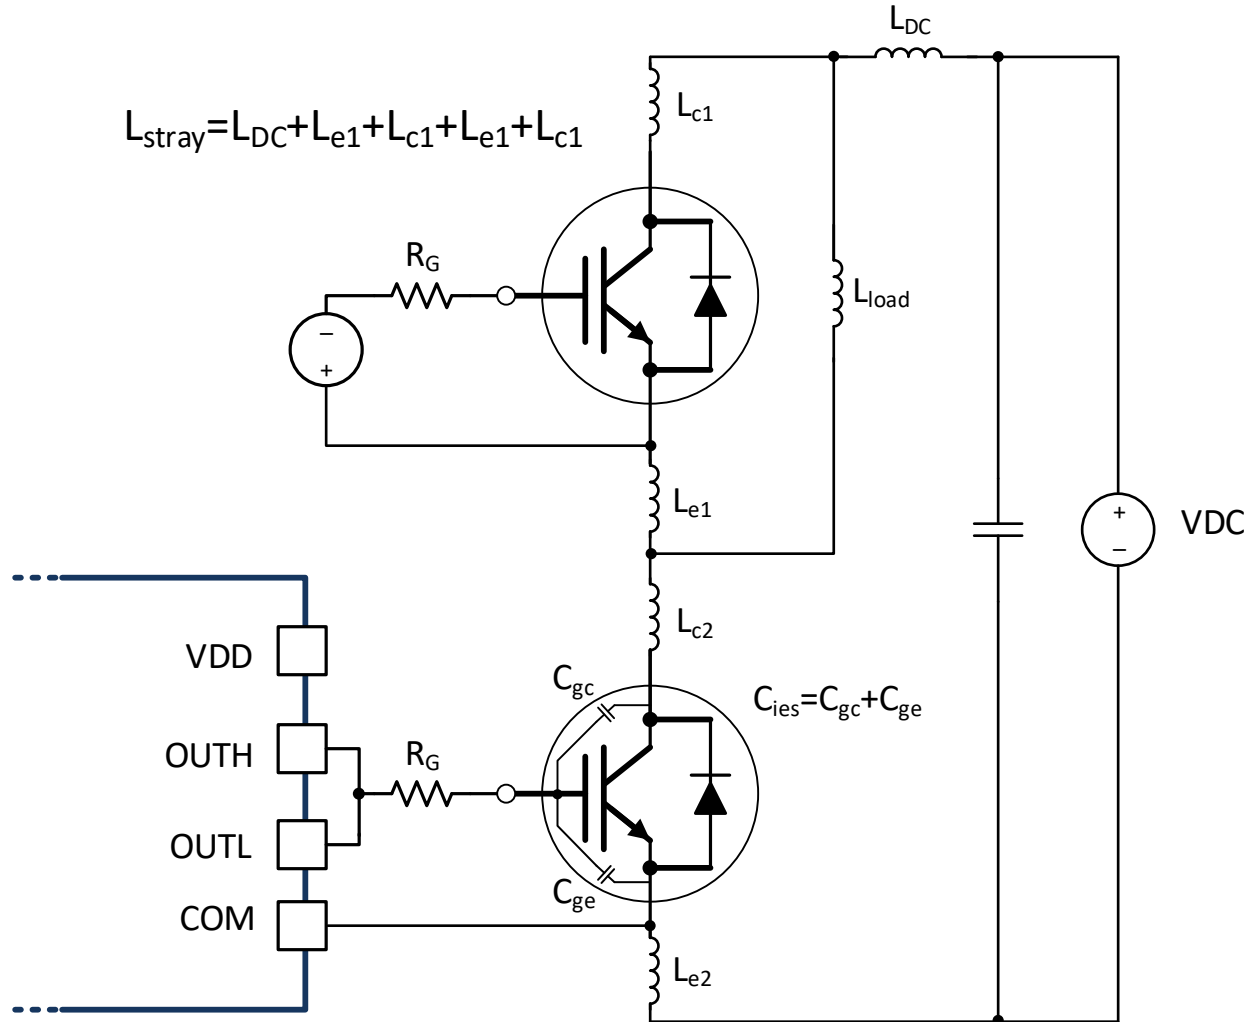

图 9-6. Stray Parasitic Inductance of IGBTs in a Half-Bridge Configuration
- L_{stray} is the stray inductance in power switching loop, as shown in FIG 9-6